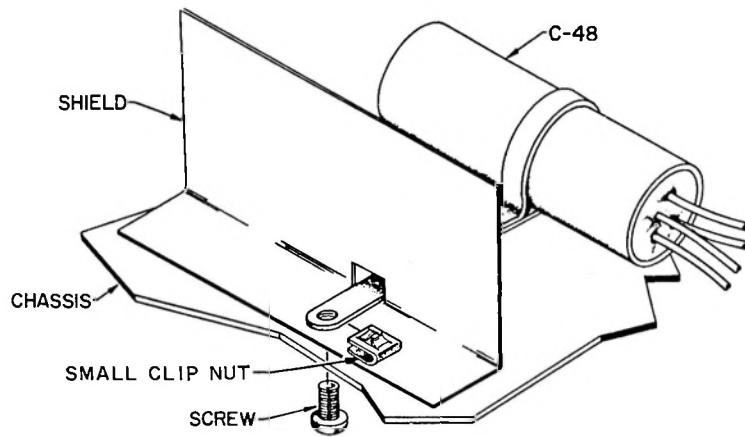

FIGURE 27. MOUNTING C-48
- C-48, 3000/1500  $\mu$ f, 25 volt electrolytic and the shield. Mount to the chassis with a 4-40 x  $\frac{3}{4}$ " screw and small clip nut as shown in Figure 27.